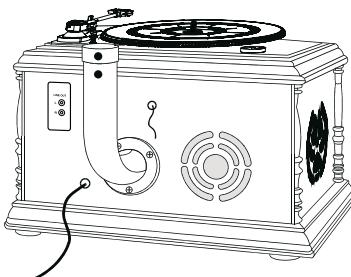

Fig. 6.
5. Look at **Fig6**. It shows the assembled RTCC411RIP host cabinet apparatus.